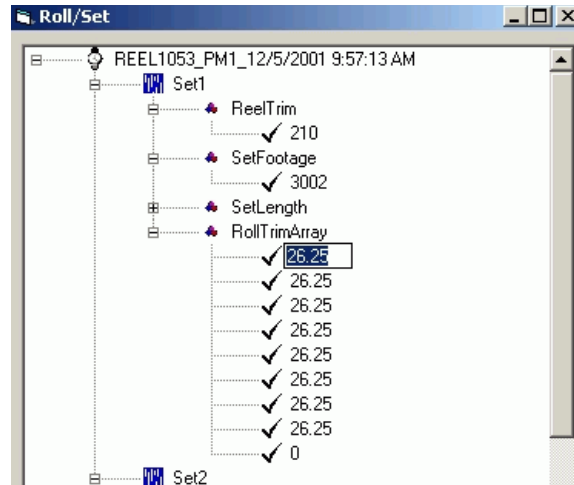

Figure 46. Editing the RollTrimArray
- edit the RollTrim specification for individual rolls. To do this, expand the applicable set to show all variables for that set. Then expand the RollTrimArray, select the roll, and edit the value, Figure 46.